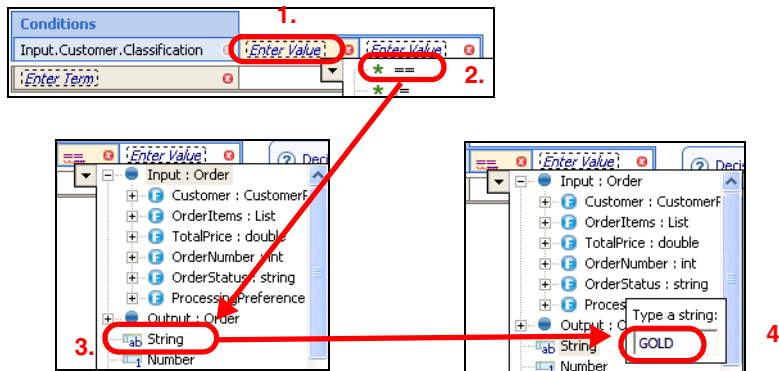

Figure 16-9 Decision table: Enter value for classification
- ▶ Click *Enter Value* to the right of the condition. Select ==, then select *String* and enter GOLD in the text box (Figure 16-9).